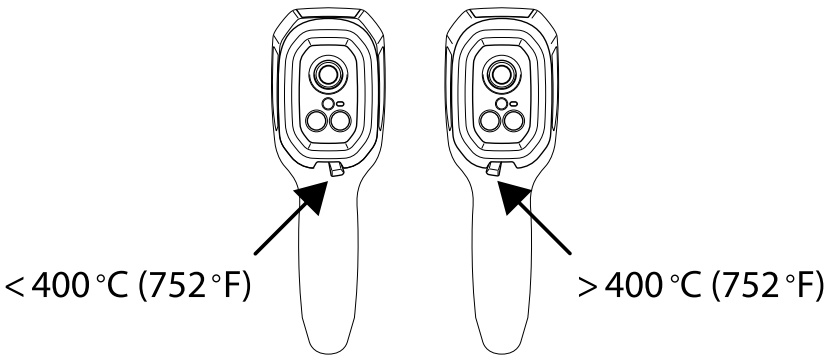
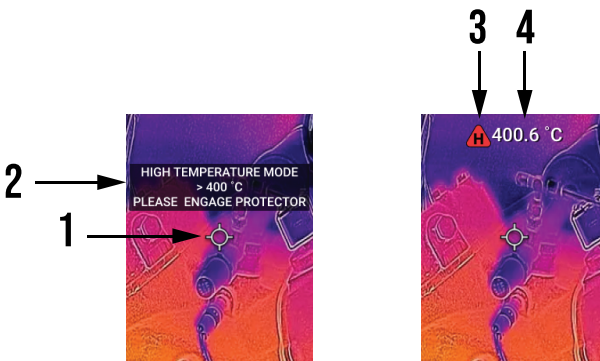

Figure 13.1 TG298 high temperature switch.
Figure 13.2 1. Targeted spot, 2. Alert message, 3. 'H' icon appears when switch is engaged, 4. Temperature measurement.
Refer to **Figure 13.1**, below, for proper switch positioning for high and low temperature applications (the images, below, show the camera from the lens side). When the camera is in the high temperature mode, the 'H' icon will appear on the display, as shown in **Figure 13.2**.
3. METERLiNK will search for the camera (the camera must be ON). See **Figure 13.1**, below.
1. Open the camera's *GALLERY* from the main menu and scroll to an image using the arrow keys. See **Figures 13.2** and **13.3**, below.